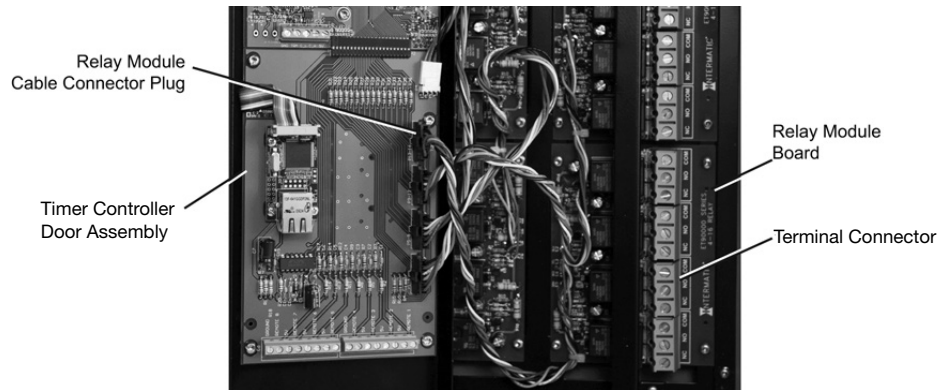

Figure 4. Removing the relay module board.
9. Disconnect the relay module cable connector plug from the applicable relay module connector on the door assembly. See Figure 4 for location of the relay module cable connector plugs.